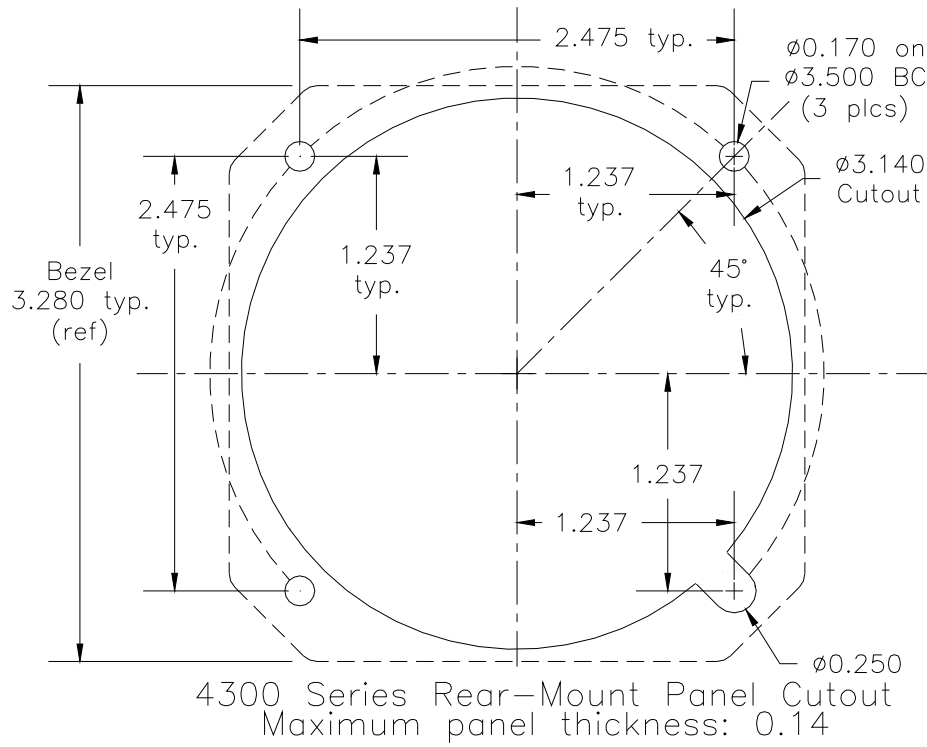

Figure 2.2: Panel Cutout Dimensions
- B. Ensure the available instrument panel cutout meets the requirements of the indicator. See Fig. 2.2 for details.